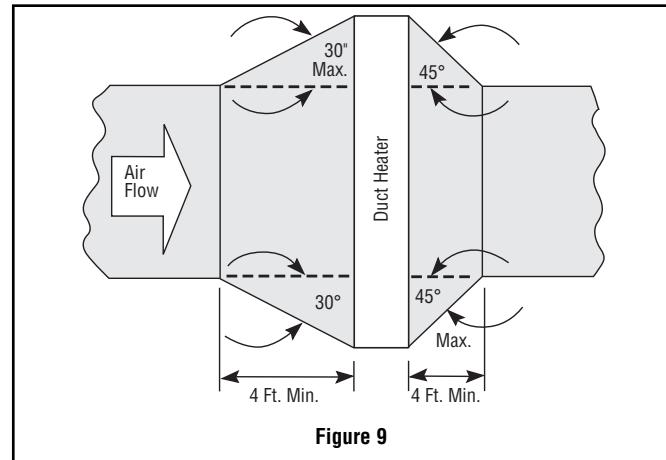

Figure 9
5. Installation with duct transitions in some air distribution systems, the duct heater may be considerably larger than the duct-work and the duct area must be increased by a sheet metal transition. The slope of the transformation piece on the upstream side of the equipment is limited to 30° as indicated in Figure 9. On the leaving side, the slope should not be more than 45°.